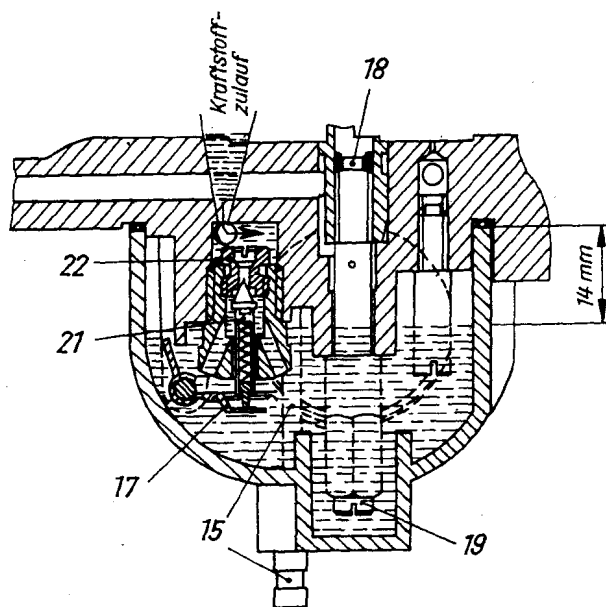

Fig. 196. Carburettor lower part (sectional view) fuel level
The fuel required for starting is pre-mixed in the starting compartment. The air required for this purpose is sucked up from the compartment for the central float through a recess in the upper edge of the partition wall. The central float is aerated through an overflow tube (15), Fig. 196, which is arranged in the centre of the float chamber.
The fuel flows through the float valve (16 in Fig. 192) into the float chamber. When the fuel level has reached a certain height (Fuel level), the float needle valve is closed by a sheet-metal nose (17), Fig. 196, which is arranged at the holder of the float.
By the atomiser insert (18 in Fig. 196), the fuel is atomised and mixed with the air flowing through. This ignitable fuel-air mixture is then conducted to the engine.
When the float needle valve is leaky, this is indicated by the dripping vent (15), Fig. 196. In this case, demount the valve and once more carefully clean it. If it then is still leaky, it must be replaced by a new one.